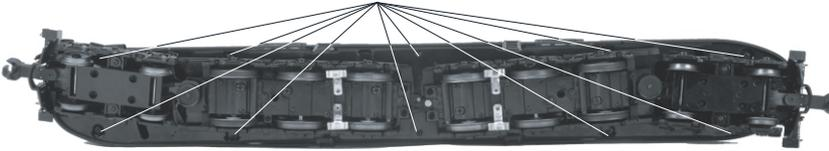

Figure 6. Body Removal Screw Locations
2. Once the cab is removed, remove the trucks by unscrewing the black Phillips motor mount screw located on the underside of the drive trucks (see Fig. 6).